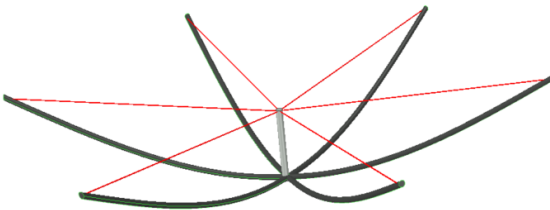

Figure 7 All support cords attached to spreaders
6. Repeat the same process for the remaining four spreader arms. (Figure 7)